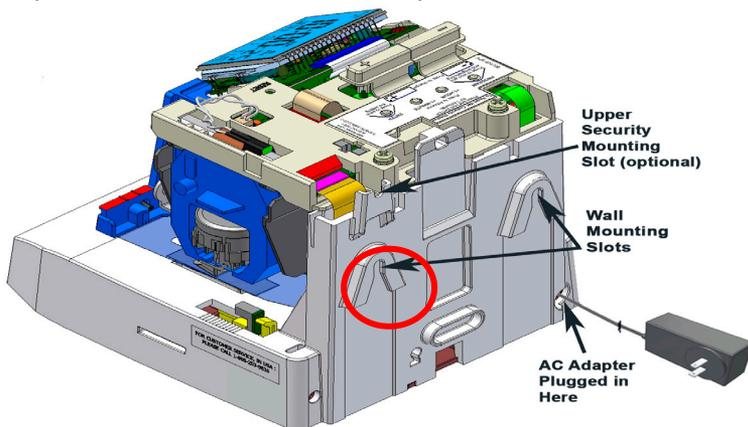

Figure 2: PIX-75 Rear View for Wall Mounting.
1. Using the supplied mounting template (see last page of this guide), mark the two (2) mounting slots on the wall. A 3rd mounting slot can be used to provide security (see Figure 2 below).
Note – The optional security screw, if used, must be installed at a downward angle to provide adequate clearance for the cover to fit on properly (see Figure 2 on page 2-26).